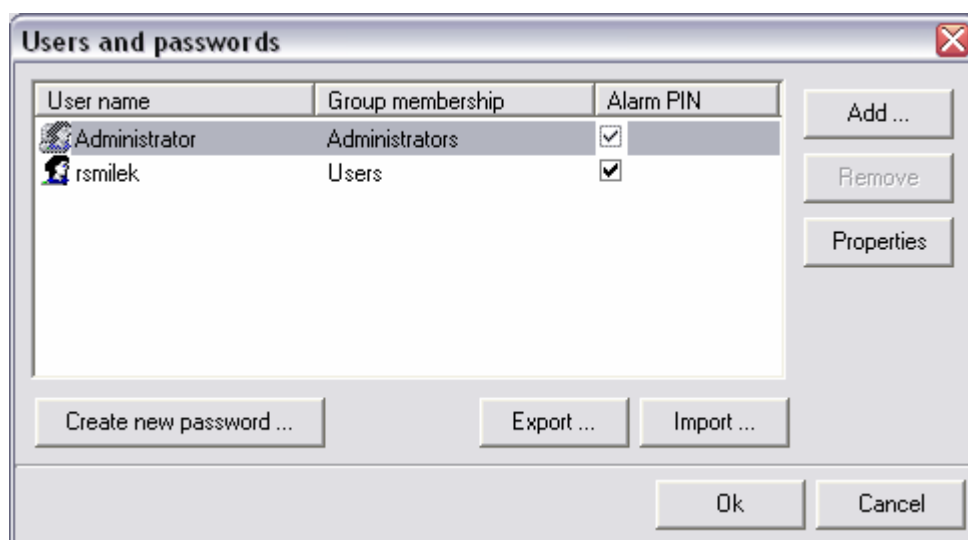

Figure 4 Dialog for editing of „Users and passwords“ stored in data logger
- Prohibited – definition of „User list“ stored in data logger is independent from „User list“ - for program it is necessary to define it in each data logger itself. Is activated by selection „Protection of access to HW functions“ and it is defined in dialog under „Users and passwords“ button, see figure 4.
If this mode inactive, then list of clients stored in program is independent from list of clients stored in data logger and program does not supervise its updating. List of clients stored in data logger is activated by selection „Protection of access to HW functions“ then defines in dialog under „Users and passwords“ button in setting of data logger, see appendix 1, figure 4.